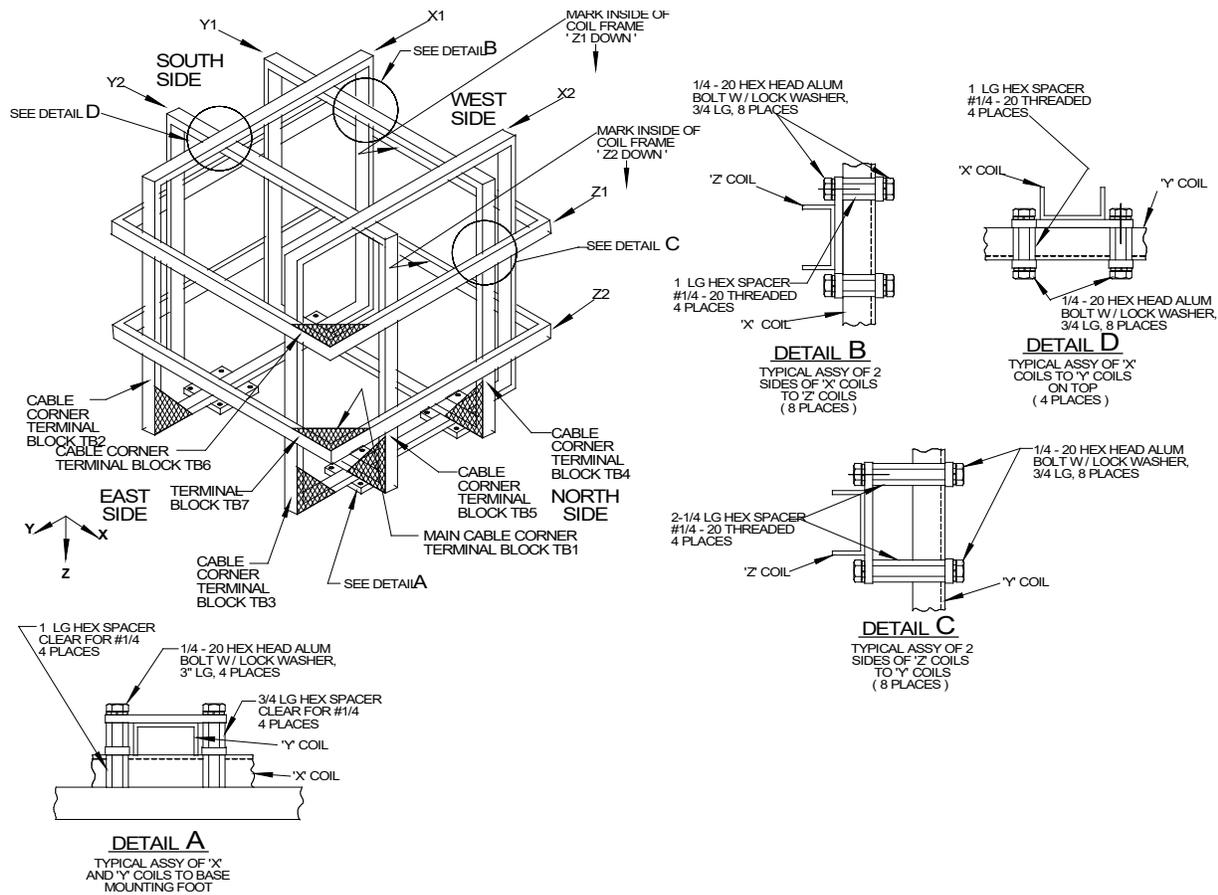

Figure 2-6 Final Assembly
2. Carefully align the mounting pads with the brackets on the X1 and Y1 coils. Insert spacers and screws into mounting pads as shown in detail A of Fig. 2-6. Align carefully until aluminum screws can be turned by hand.
5. At the top where the X and Y coils cross, install threaded spacers, 1/4-20 x 3/4" long hex screws and lock washers to the brackets as shown in detail D of Fig. 2-6.
3. Secure the Z1 coil to the Y coils with 2 1/4" threaded spacers, hex machine screws, and lock washers as shown in detail C of Fig. 2-6.